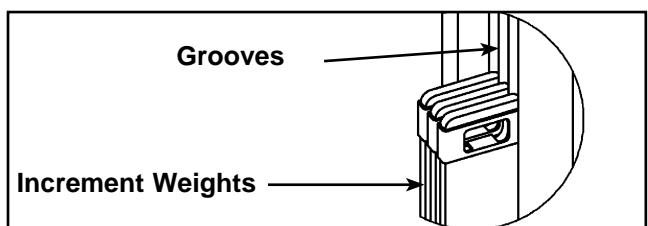

Figure 10
- I.** Reinstall the six increment weights that were removed in step 6B. See Figure 10.